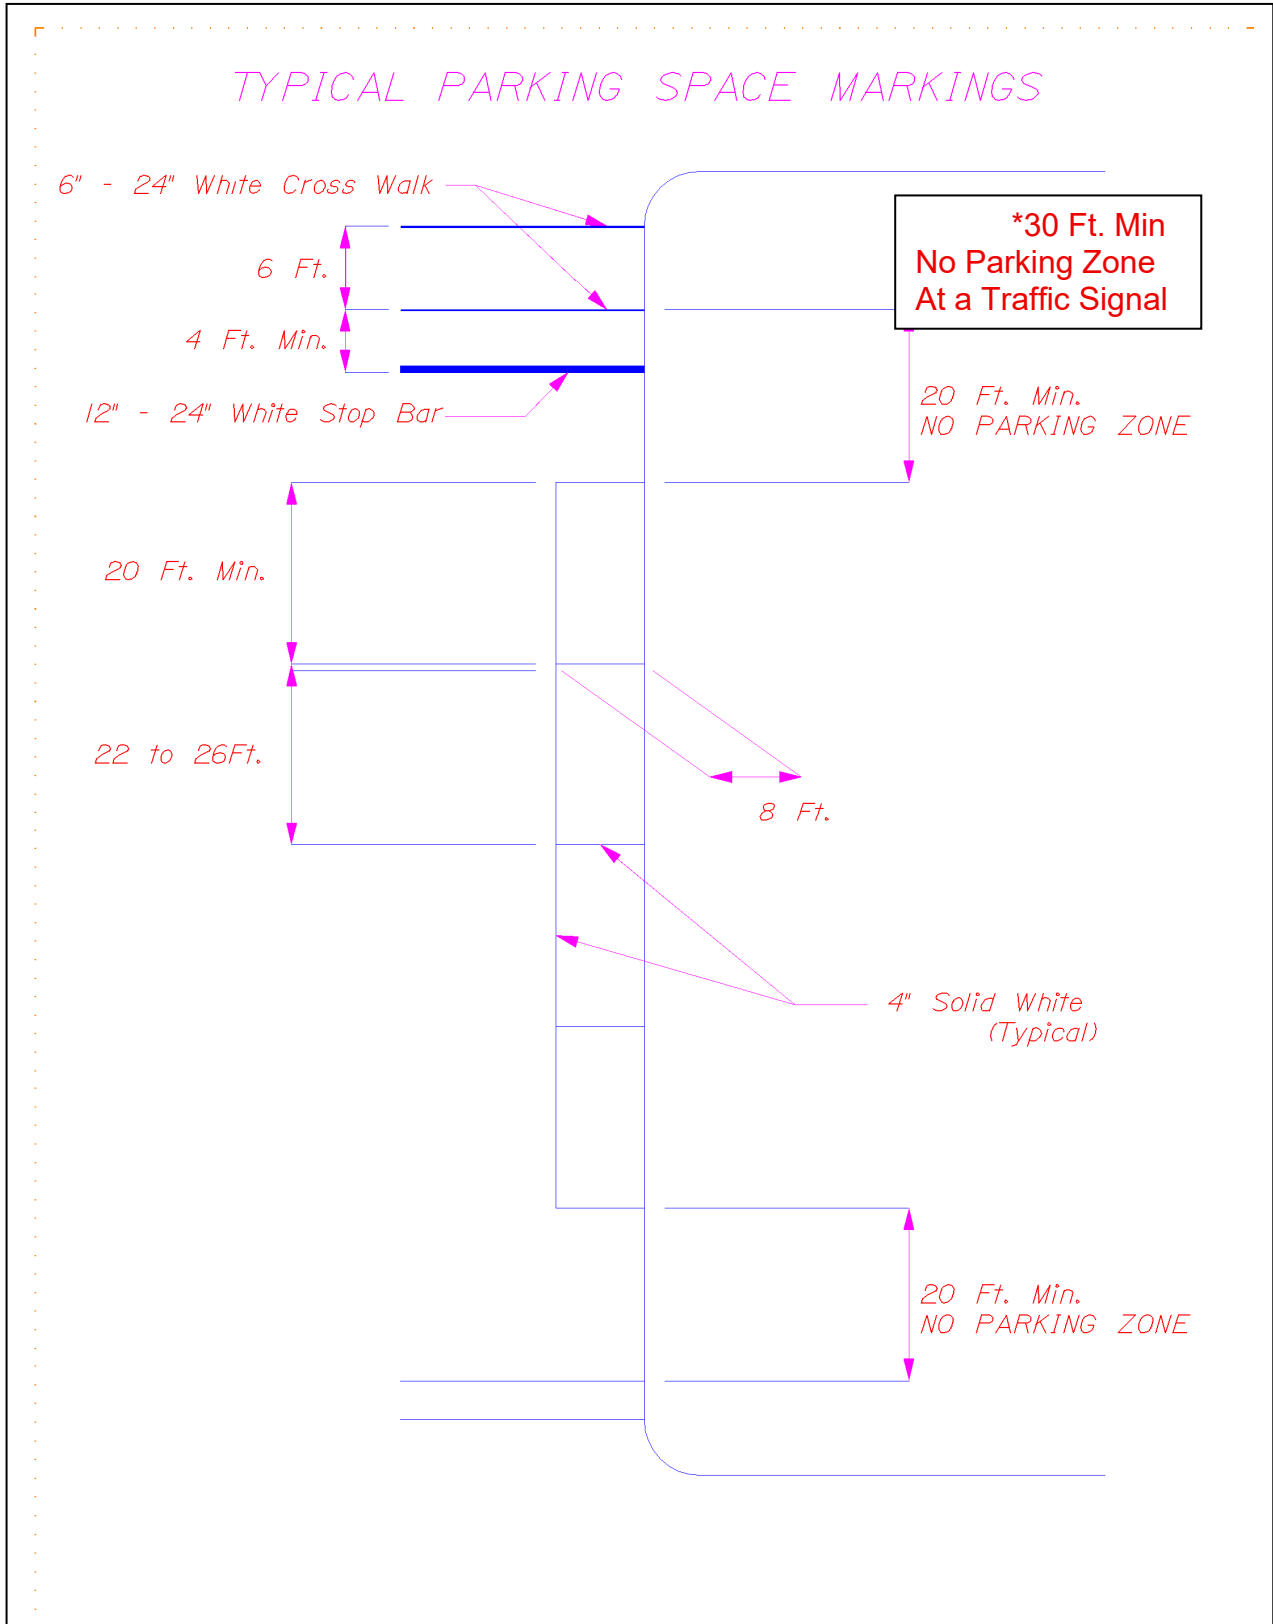

Figure 1
2. No parking shall be allowed within 20 feet of any un-signalized crosswalk (includes mid-block) and 30 feet at a signalized intersection. Signs should be installed indicating that no parking is allowed. (see Figure 1). *Option - Parking restrictions can be removed when bump-outs or curb extensions are built. Bump-outs/curb extensions allow the pedestrian to be seen by the traveling public.*